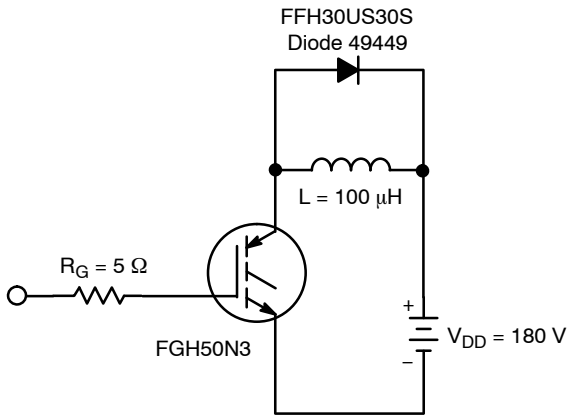

Figure 20. Inductive Switching Test Circuit
- E_{ON2} is the turn-on loss when a typical diode is used in the test circuit and the diode is at the same T_J as the IGBT. The diode type is specified in Figure 20.